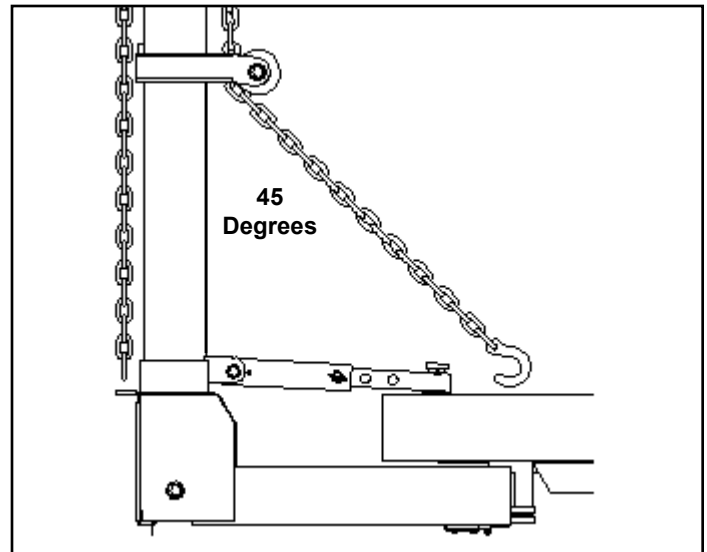

Figure 35
**IMPORTANT:** DO NOT make upward pulls if angle between tower chain and tower pipe is 45 degrees or less. (See Figure 35.) If a repair situation requires an upward pull at a more severe angle, use an auxiliary ram set up. See (S21M) Auxiliary Cylinder Users Manual.